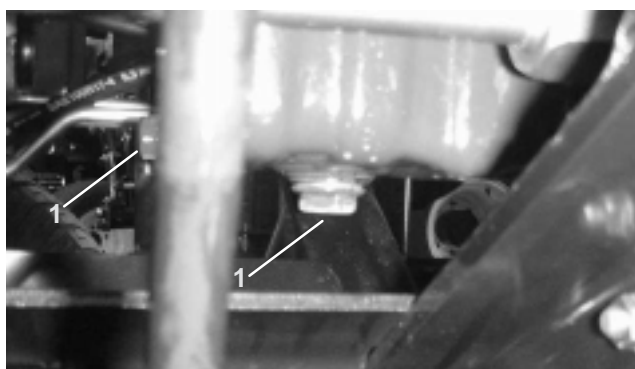

Figure 47
1. Remove drain plug (Fig. 47) and let oil flow into drain pan. When oil stops, install drain plug.